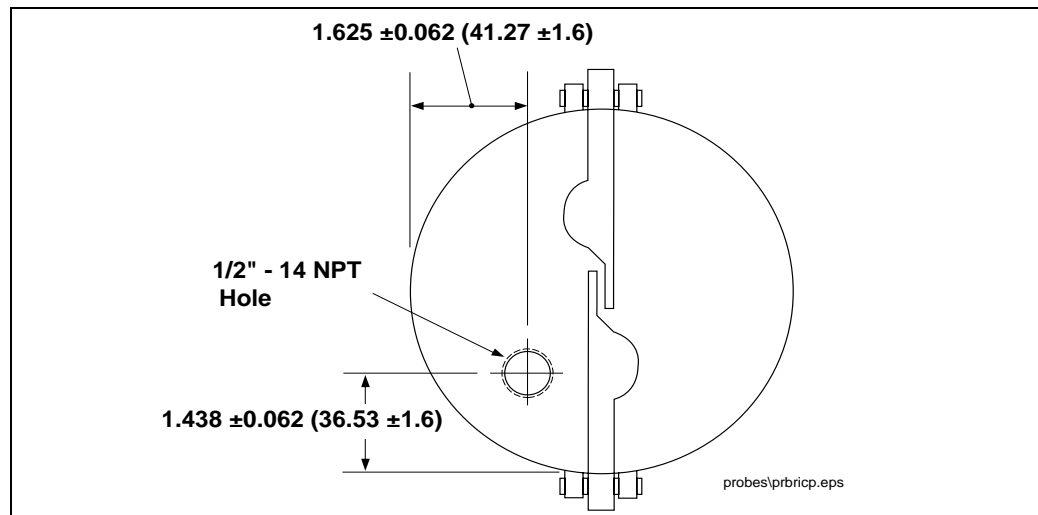

Figure 4. Riser Cap Modification
2. Drill and tap the cap for a 1/2"-14 NPT cord grip thread [Figure 4 on page 10].